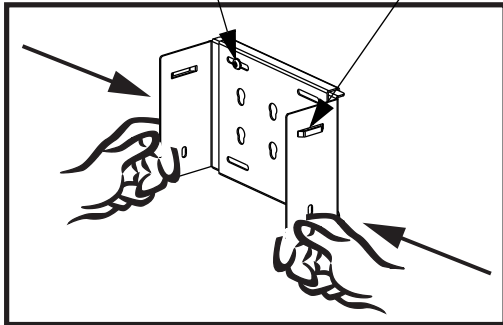
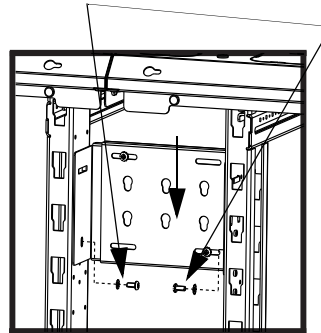

Figure 1
Figure 2
- (1) Pack of Mounting Hardware
Install the **CNSPCA** by choosing mounting location shown on Page 1. Loosen the (2) adjusting screws as shown in Figure 1 and slide the bracket between cabinet posts just above the desired mounting location until bridge lances are aligned in mounting location. Pull down and fasten with (2) #12-24 screws and washers provided as shown in Figure 2. Tighten the (2) adjusting screws on the bracket. Install the **CNSPE** in the desired mounting location by hooking bridge lance over tab and securing with #12-24 screw and washer provided as shown in Figure 3